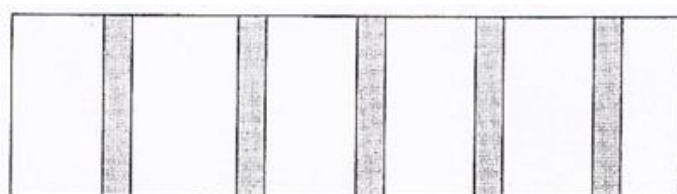

Fig.4.12 – Fringe formation in an optical flat
- ▶ To summarize, when light from a monochromatic light source is made to fall on an optical flat, which is oriented at a very small angle with respect to a flat reflecting surface, a band of alternate light and dark patches is seen by the eye. Figure 4.12 illustrates the typical fringe pattern seen on a flat surface viewed under an optical flat. In the case of a perfectly flat surface, the fringe pattern is regular, parallel, and uniformly spaced. Any deviation from this pattern is a measure of the error in the flatness of the surface being measured.